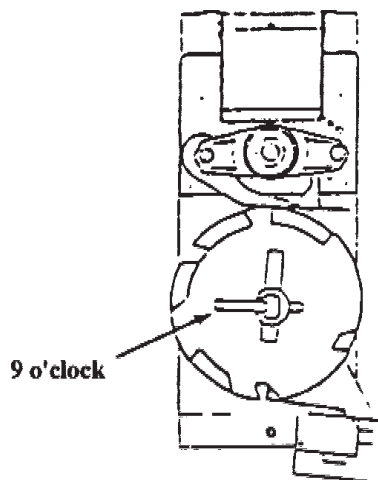

Figure 7
4. Install the Vending Cam on the front shaft of the Motor making sure the Lock Tab is at the 9 o'clock position. See Fig 7.